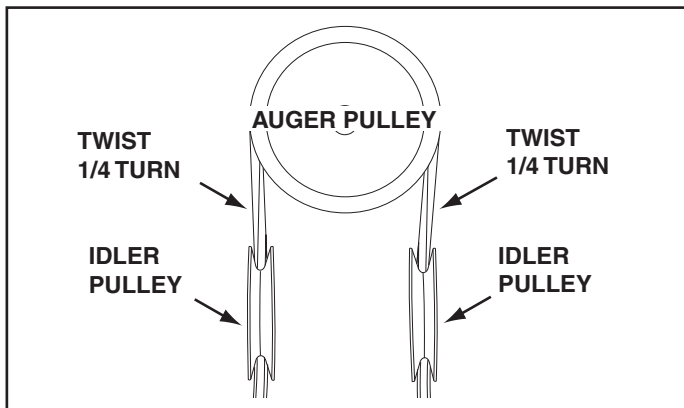

FIGURE 29
STEP 31: (SEE FIGURE 29)
- Install new belt over top of large auger drive pulley and under the two side idler pulleys. Twist the belt 1/4 turn to seat the "V" of the belt in the groove of each idler pulley. Refer to figure 29 on page 16.